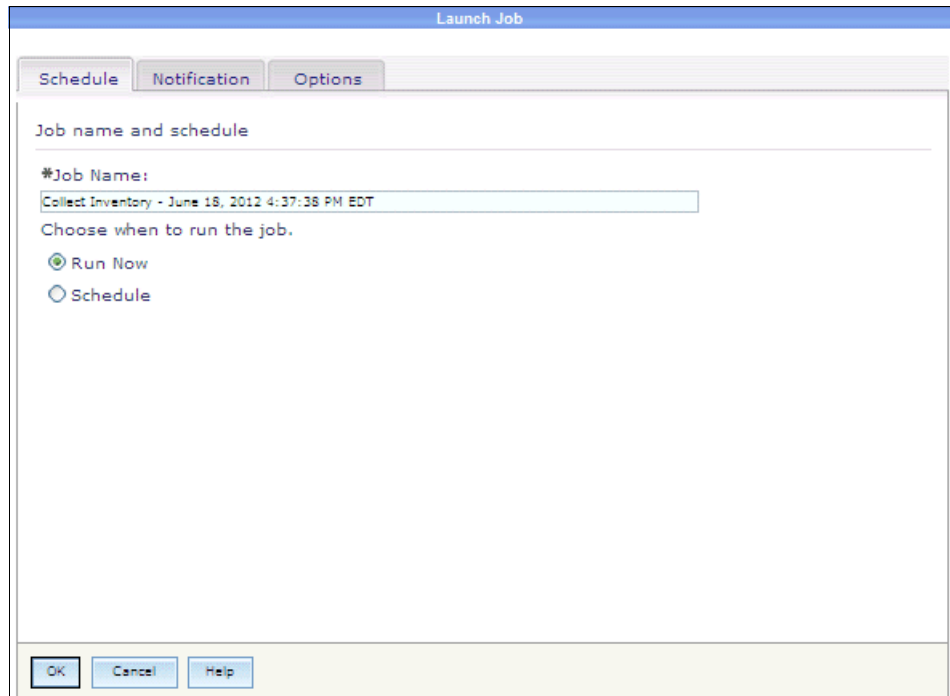

Figure 6-143 Collection task on Storage Farm object
4. Click **OK** to run the collection task as shown in Figure 6-143.